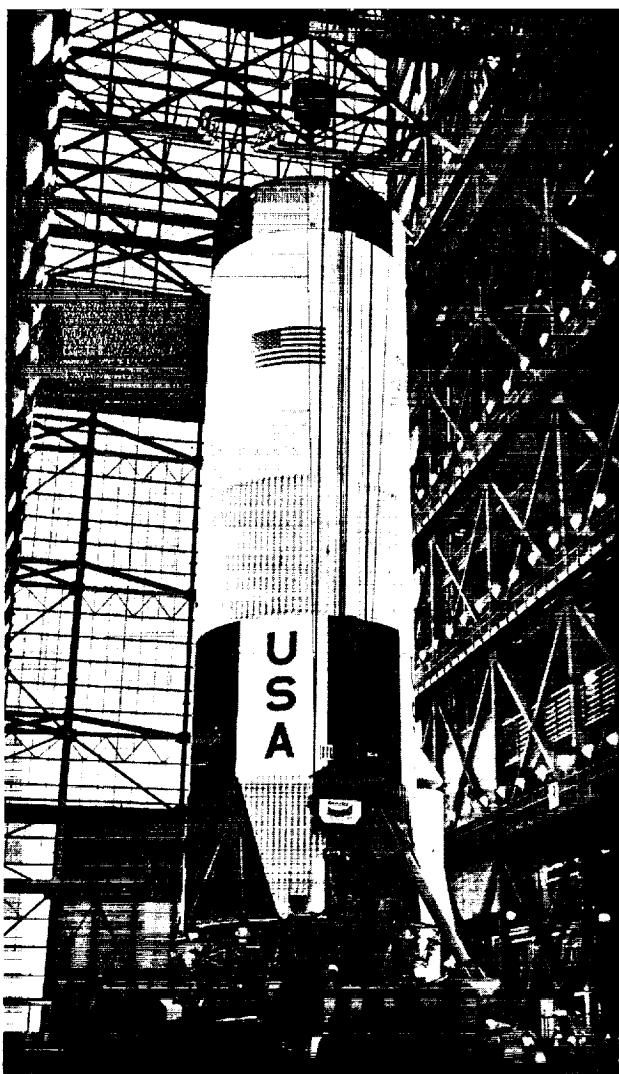

Figure 10-5. S-IC Stage Erection At KSC - Phase II
- d. Rotate through 90° and lower to a position convenient for access to the rotation brace assembly by use of forklifts with man platforms per figure 10-5.